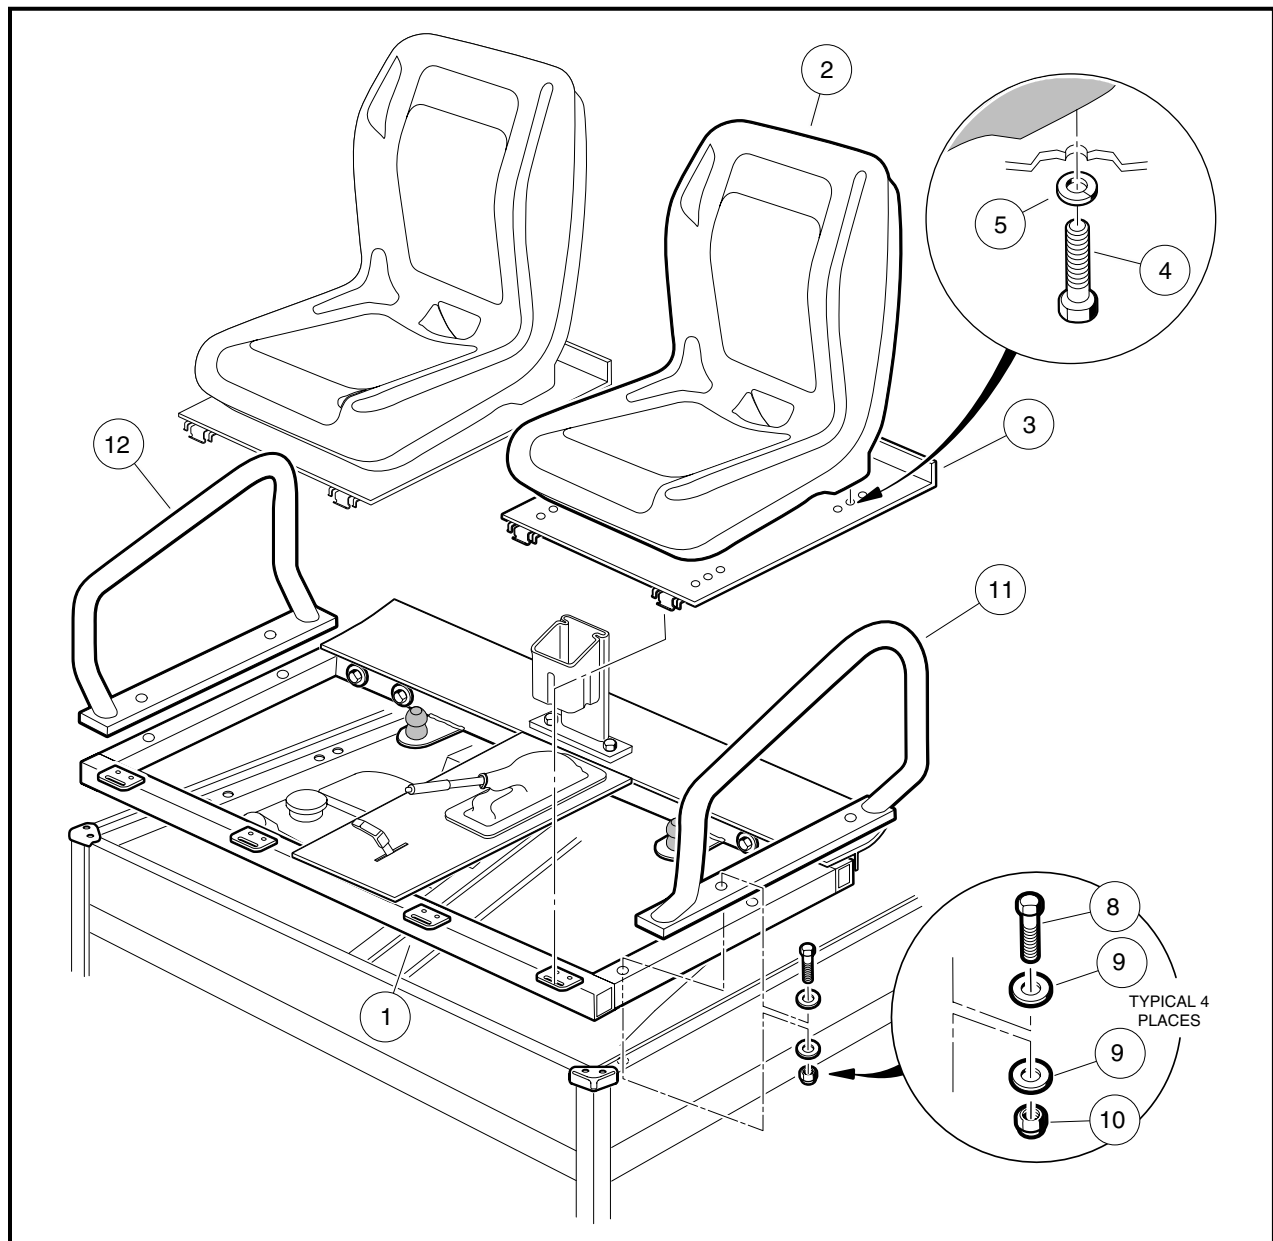

Figure 4-3 Front Seat Support
1. Remove seat (2) from vehicle.
2. Disassemble seat (2) from seat panel (3) by removing four bolts (4) and lock washers (5) (**Figure 4-3, Page 4-6**).
3. Adjust seat to preferred position. Align holes in seat panel (3) with holes in seat (2) and secure with four bolts (4) and lock washers (5). Tighten bolts to 96 in-lb (10.8 N·m).
1. Completely remove both front seats (2) from the vehicle (**Figure 4-3, Page 4-6**).
4. Remove four hex-head bolts (8), eight washers (9) and four lock nuts (10) from the seat support (**Figure 4-3, Page 4-6**).
5. Remove the two armrests (11 and 12) from the seat support (1).
6. Lift seat support (1) from vehicle.
1. Reverse the front seat support removal process (**Figure 4-3, Page 4-6**).
2. Assemble bolts (8), washers (9), and lock nuts (10) to seat support and armrests (11 and 12) and tighten bolts (8) to 13 ft-lb (17.6 N·m). **See following WARNING.**